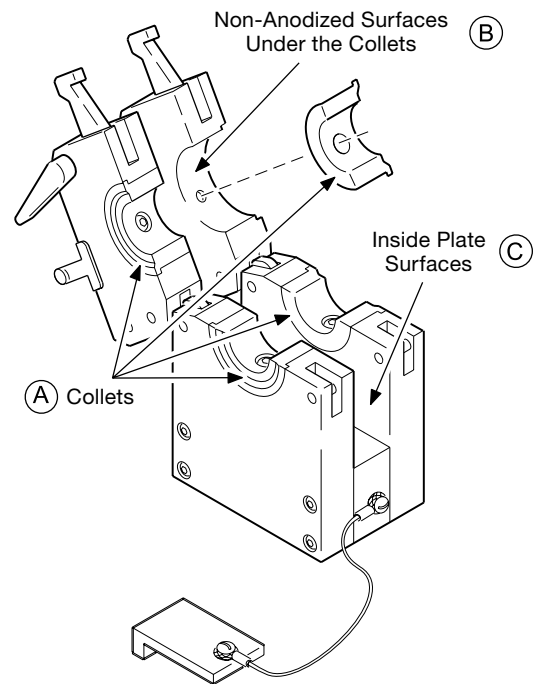

Figure 23 Cleaning the Collets and Collet Mounting Surfaces
1. Inspect the fixture block for cleanliness, wear and damage. See Figure 23.
1. Inspect and clean the collets. See Figure 23(A).
4. Remove any oxides from the non-anodized mating surfaces of the side plates with a fine-grit abrasive pad. See Figure 23(B).
5. Remove any dirt and oxides from the inside surfaces of the side plates with a clean, soft cloth. See Figure 23(C). Remove heavier deposits with a fine-grit abrasive pad.